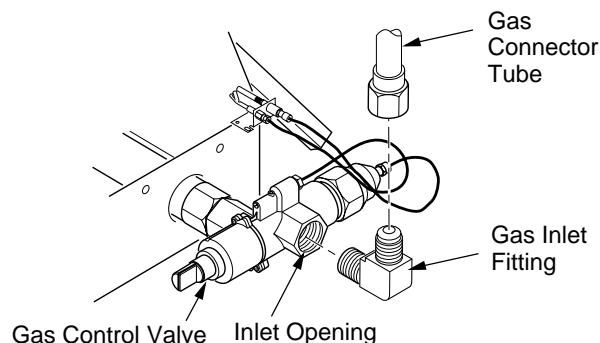

Figure 11 - Installing Inlet Fitting and Gas Connector Tube
3. Install the inlet fitting into the inlet opening of the gas control valve (see Figure 11). Use thread sealant on the male pipe threads.